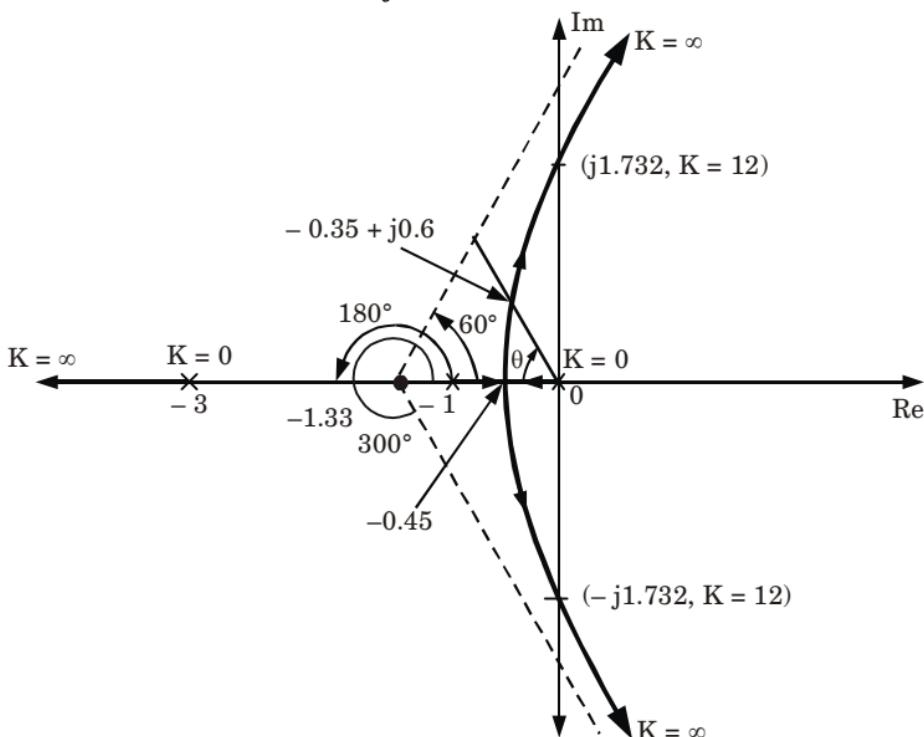

Fig. 3.9.1. Root locus for $G(s) = K/s(s+1)(s+3)$.
2. From the origin a line at angle $\theta = 60^\circ$ is drawn as shown in Fig. 3.9.1, which intersects the root locus plot at $s = (-0.35 + j0.6)$. As the point $s = (-0.35 + j0.6)$ lies on the root locus the following equation is satisfied